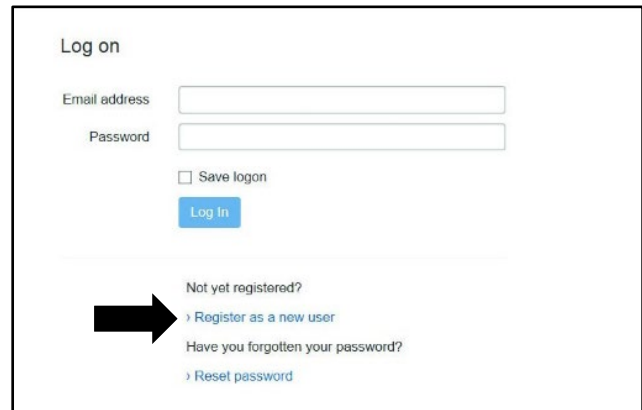
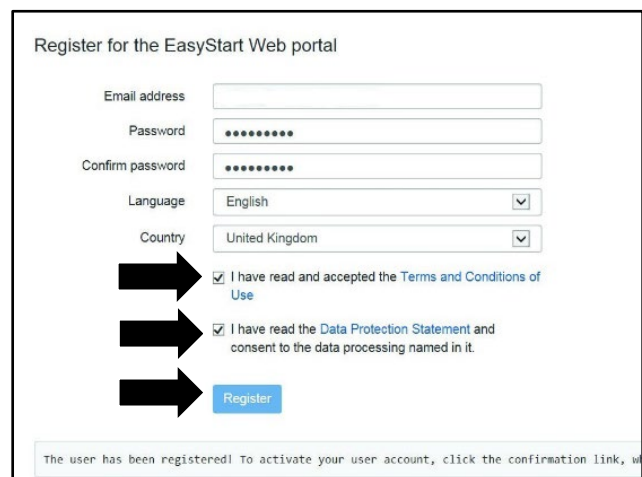

Figure 2
Figure 3
2. Click "Register as a new user" (refer to Figure 2).
3. Complete all the fields that show in Figure 3 and include the customers email address. Accept the "Terms and Conditions of Use" and the "Data Protection Statement". Click "Register" to complete the registration process (refer to Figure 2).